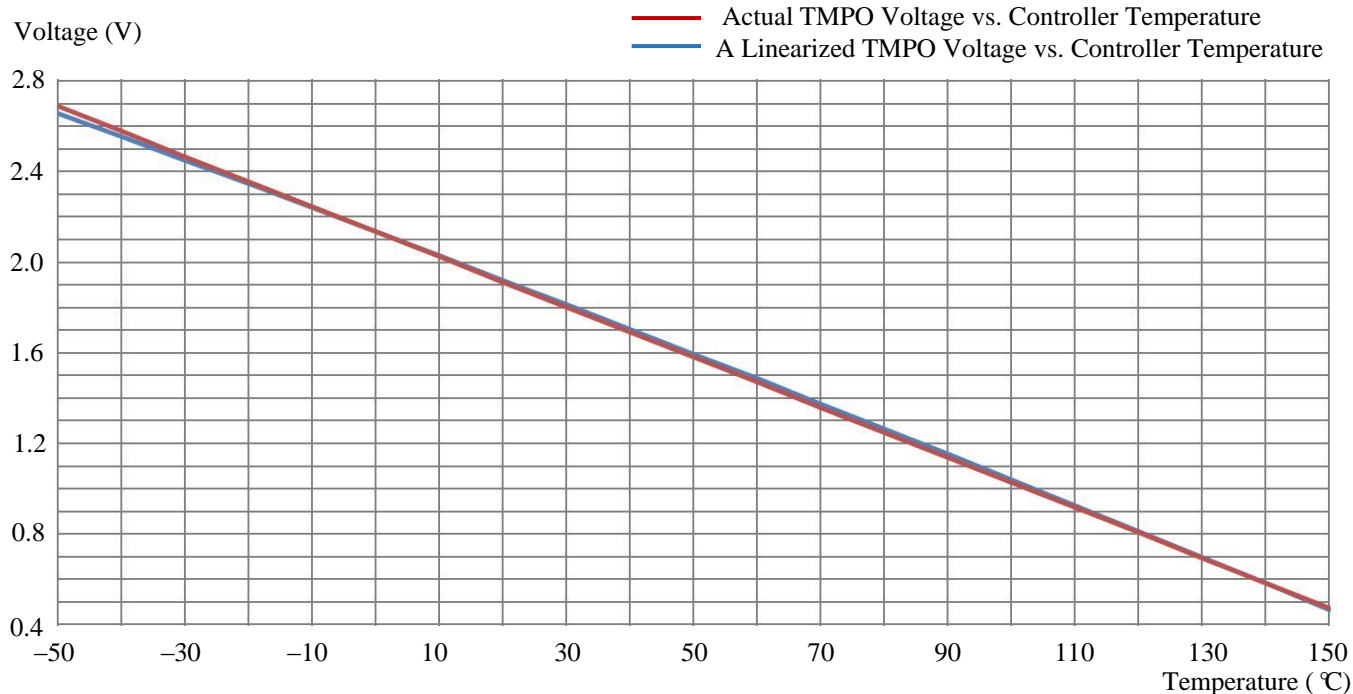

Figure 20. Controller Internal Temperature vs. TMPO Voltage
between 0°C to 100°C, the maximum error occurs at about 1.5V, at which the temperature error between the calculated data by using the formula (1) and the approximated data obtained by using the linear equation (2) is about 0.4°C, with the linear data being a little lower. The curves of the 2 sets of the data are plotted in Figure 20.